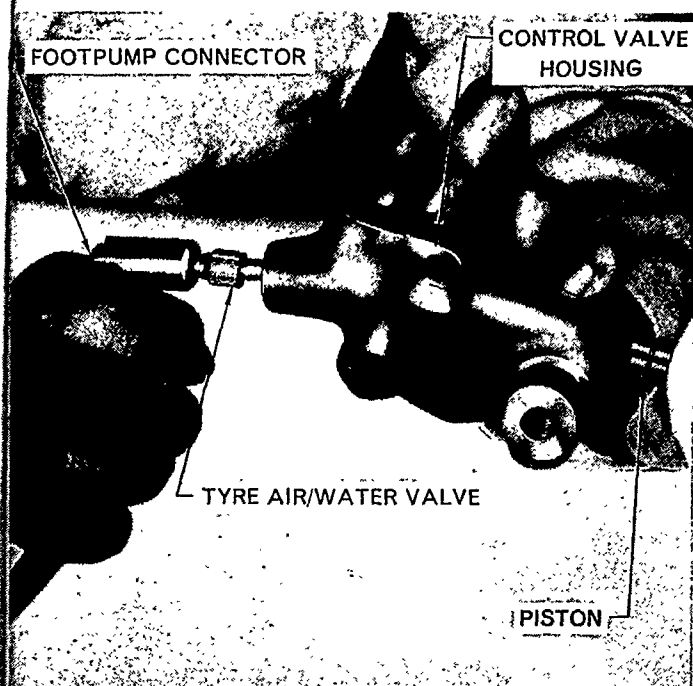

Figure 9
5. Use a compressed air line or a footpump and an air/water tyre valve to remove the valve piston. Blow air in via the valve outlet port, Figure 9, while covering the other ports to prevent air escape. Remove shims from valve piston.